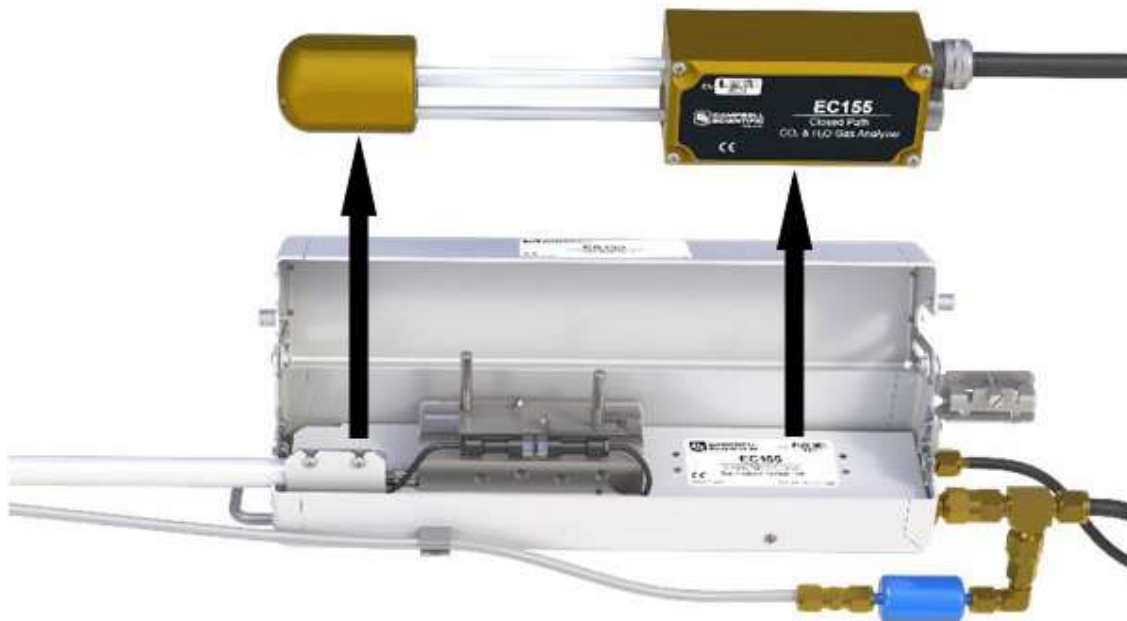
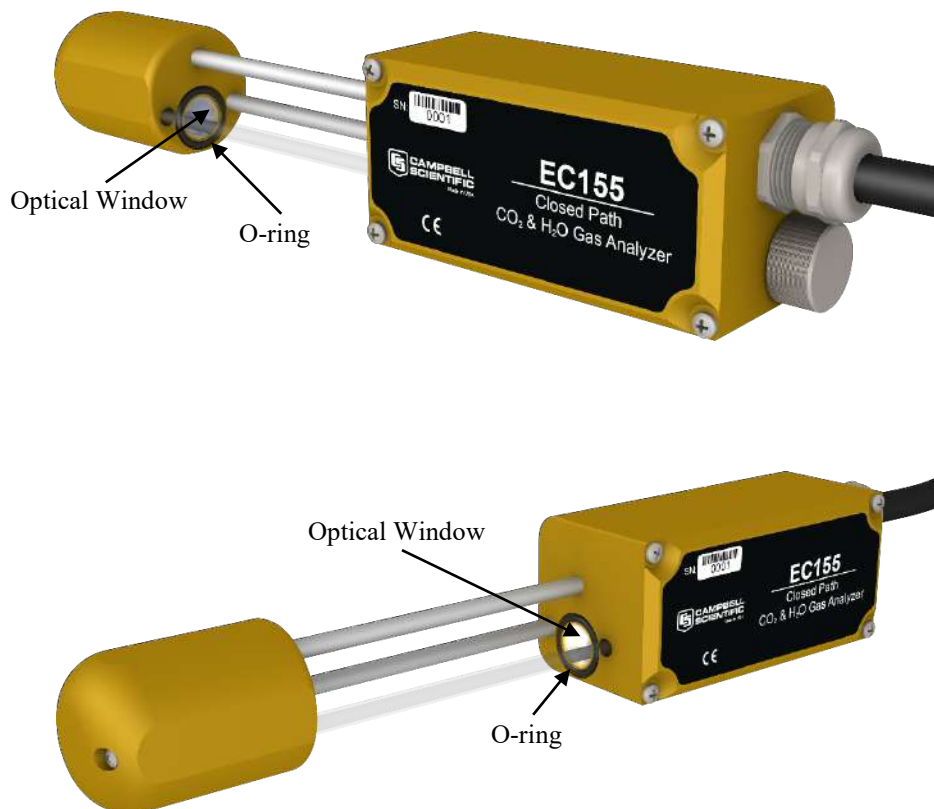

FIGURE 9-8. EC155 analyzer and sample cell with shell top open
FIGURE 9-9. Analyzer removed from sample cell and shell
4. Lift the analyzer head off the sample cell (see FIGURE 9-8), taking care not to lose the O-rings (pn 27562) surrounding the optical windows (see FIGURE 9-9). If an O-ring is lost, two replacement O-rings may be found in the mesh pocket of the EC100 enclosure or new ones may be ordered.